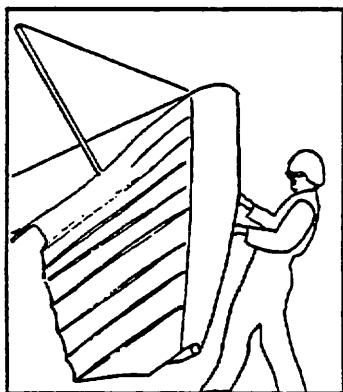

Figure 16
9) Spread the wings all the way and check all cables for any twisted thimbles or tangled cables. (Figure 16, 17)